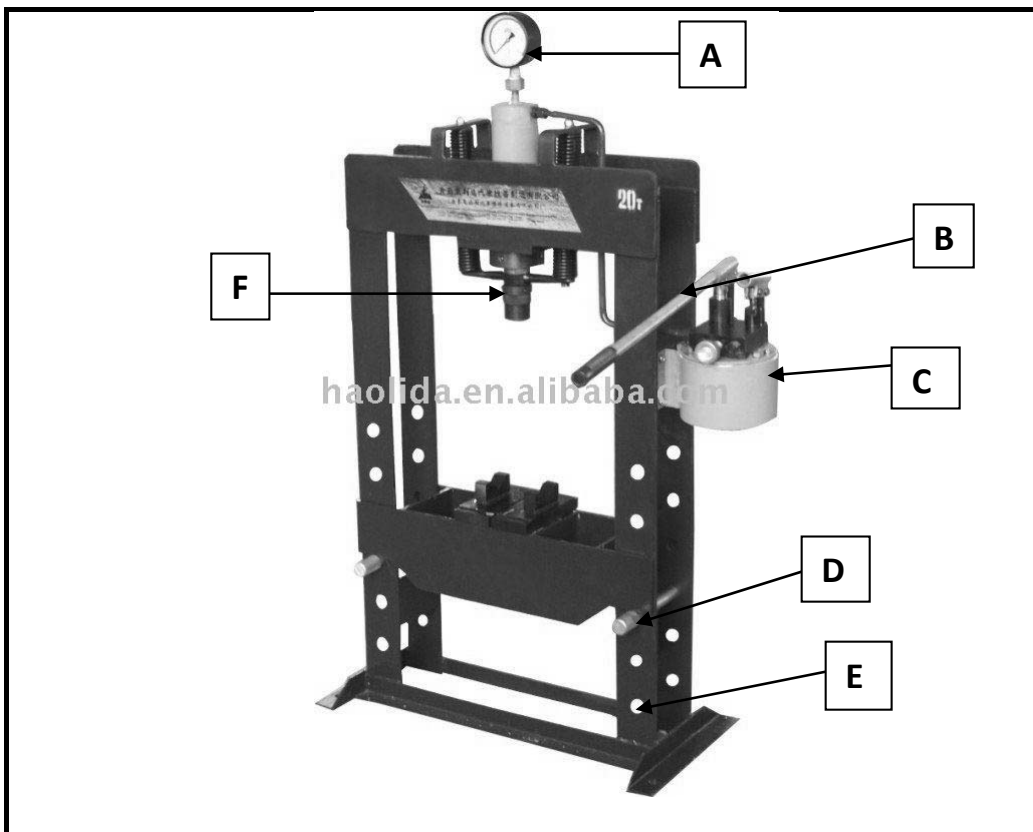

FIGURE 3.3: HAND-OPERATED HYDRAULIC PRESS
3.3 FIGURE 3.3 below shows a hand-operated hydraulic press. Label parts A–F.